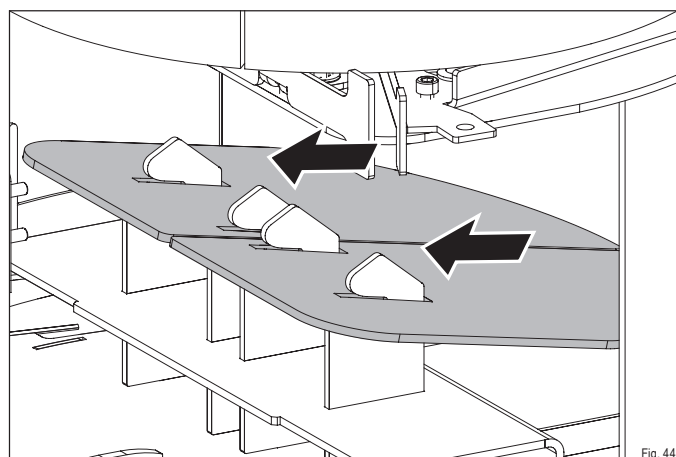

Fig. 44
- ▶ Slide the baffle plates upward to release them from the retainer (Fig. 44).